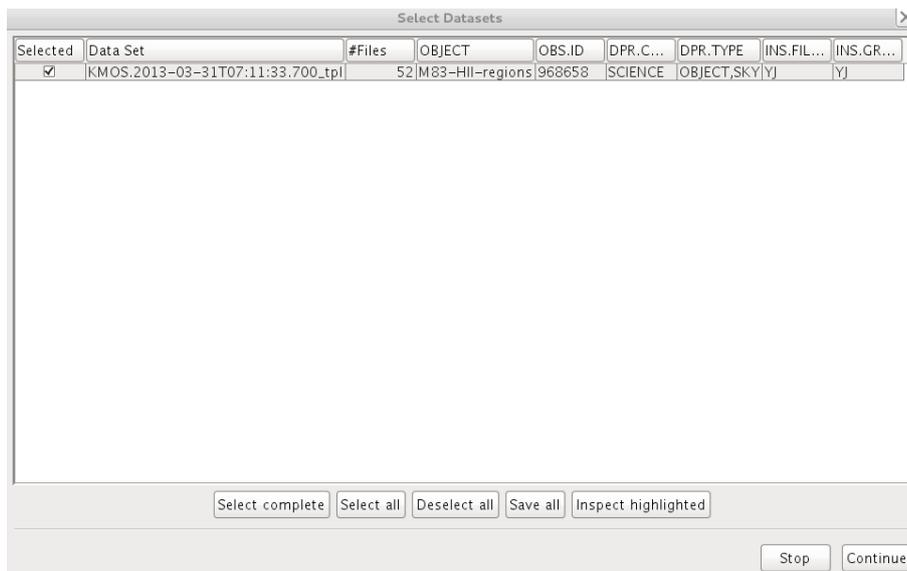

Figure 4.3: The "Select Datasets" pop-up window.
7. The `Data Set Chooser` actor will be highlighted next and will display a “Select Datasets” window (see Figure 4.3) that lists the `DataSets` along with the values of a selection of useful header keywords7. The first column consists of a set of tick boxes which allow the user to select the `DataSets` to be processed, and by default all complete `DataSets` are selected.